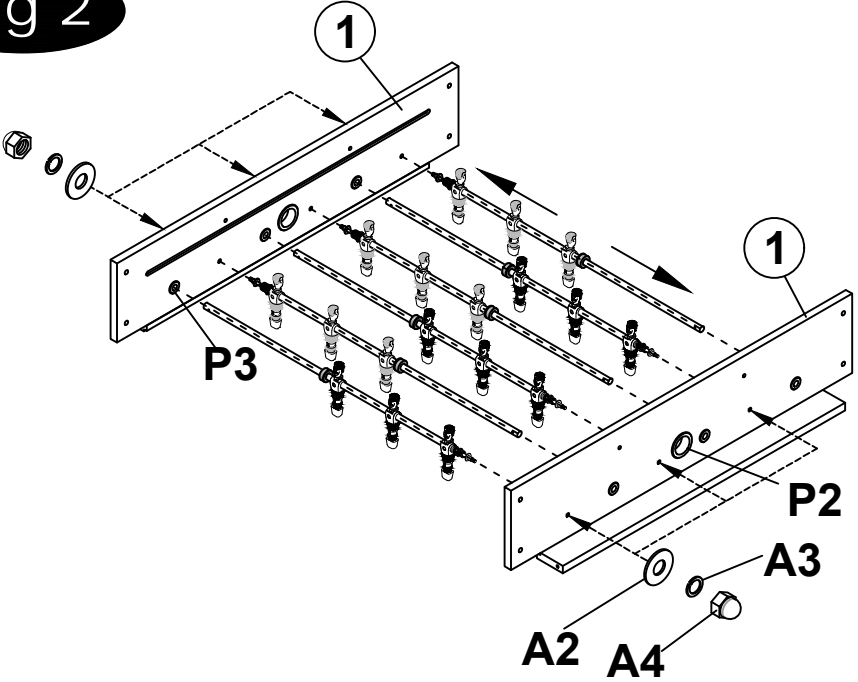

Fig 2
4. Pass the assembled Players Rod through the hole on the Side Panels from the inside, then fix it using a Washer(A2), a Spring Washer (A3) and a Cap Nut(A4). See FIG.2.